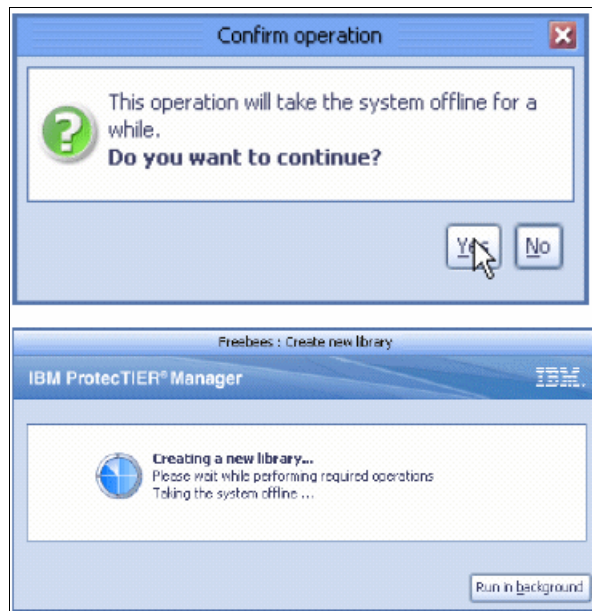

Figure 6-37 Creating a new library message
9. After confirming the creation of the new VTL, ProtecTIER Manager informs you of the library being created in the background, as shown in Figure 6-37.